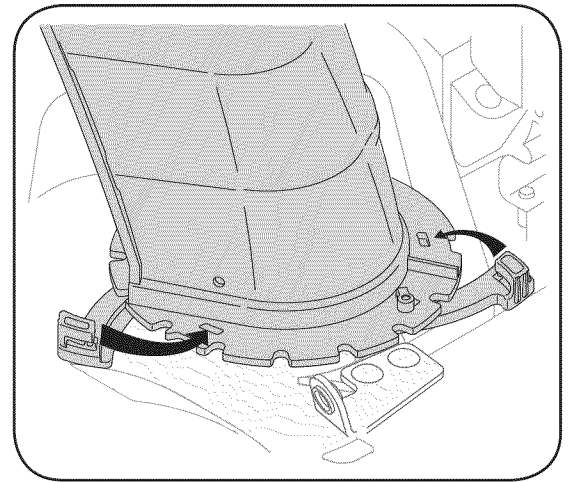

Figure 4
4. Close the flange keepers to secure the chute assembly to the chute adapter. The keepers will click into place when properly secure. See Figure 4.